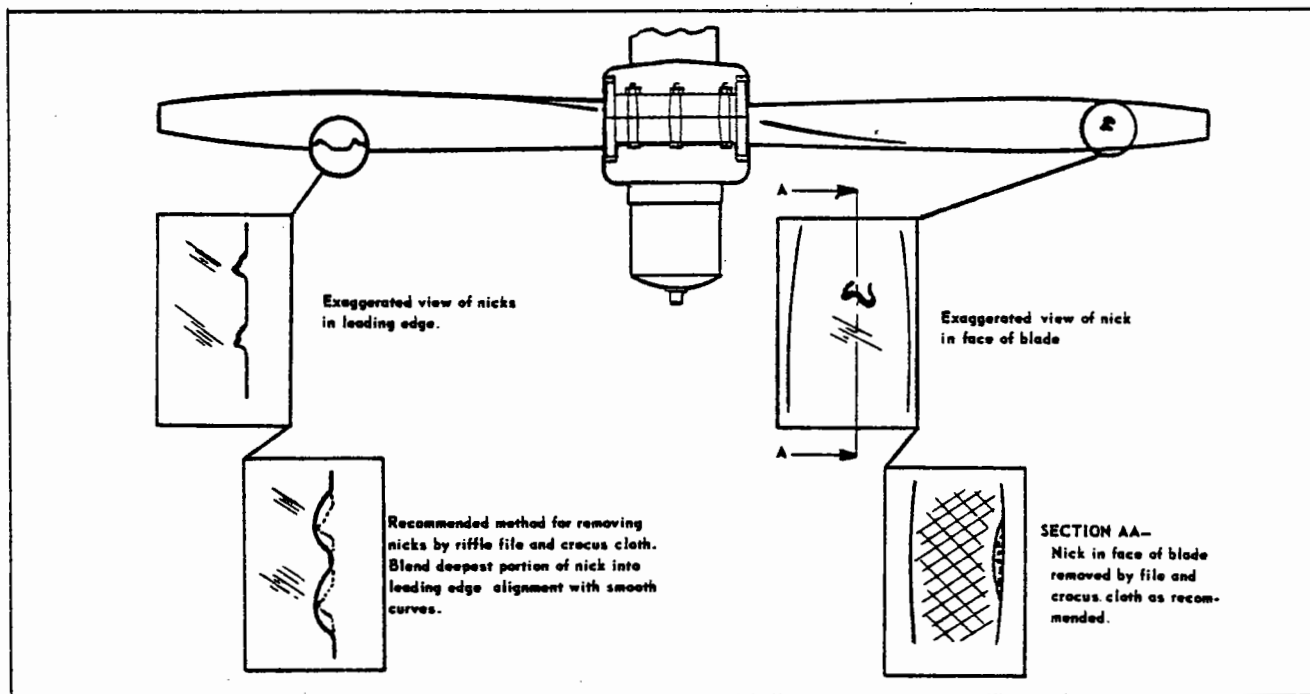

Figure 61-1. Typical Nicks and Removal Method
7. Inspect blades for damage or cracks. Nicks in leading edges of blades should be filed out and all edges rounded, as cracks sometimes start from such places. Use fine emery cloth for finishing. Refer to Figure 61-1 for propeller blade care.